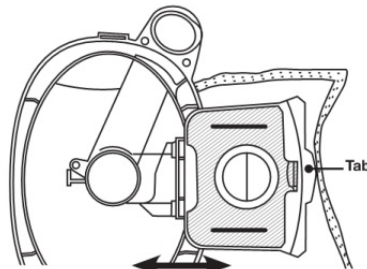

Fig 2
3. Pull the tab on the **HEPA** dust bag holder out slightly and flip upwards.(Fig 2)
4. Holding the **HEPA** dust bag in your hand, slice it firmly between the slots in the bag holder. (Fig 2)